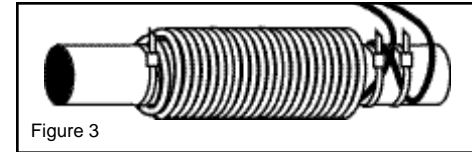

Figure 3
2. Add a second layer to the coil by continuing to wind in a clockwise direction. This time start the wind where you completed the first layer and wind back to the starting point. Place the second layer directly on top of the first layer, being careful to wind the second layer tightly in the same direction as the first layer. Place the turns side by side and touching each other. Complete the second layer by clamping the wire with the third cable tie (provided). (See Figure 3 above)